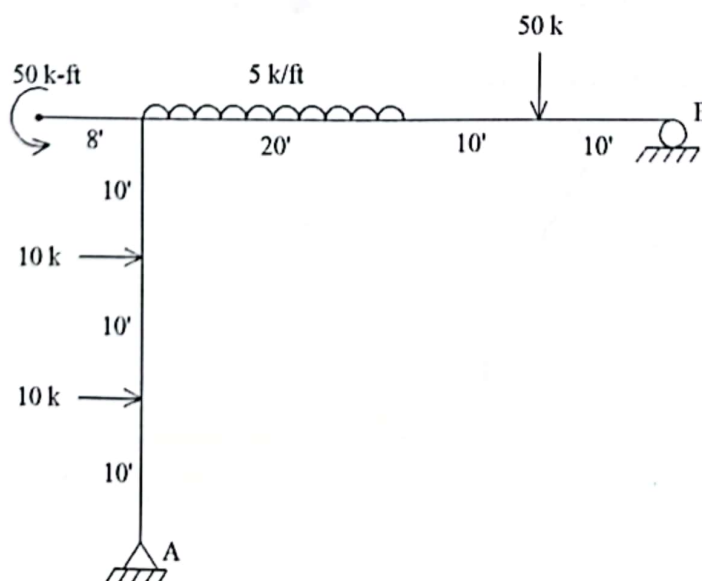

Fig. 2
| b) Solve the frame given in Fig. 2 below and draw the shear force diagram and bending moment diagram of it. | (30) | 2 |